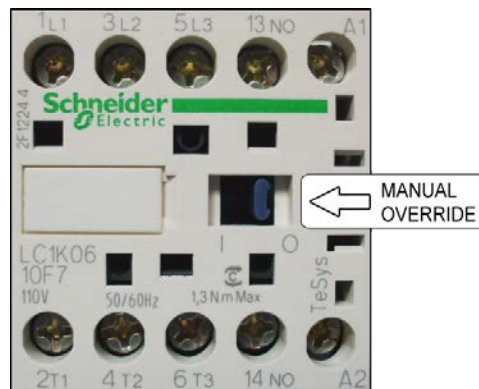

Fig. 2: Motor Contactor
2.3.14 Remove the cover from the main electrical panel and locate the motor contactor on the topmost terminal strip on the left side. In the center of the motor contactor is a blue manual override switch. Slide this manual override to the left to engage the contactor. (Fig 2) As long as this override is held, the hydraulic pump will run, supplying hydraulic pressure to the system. With the pump running, use the solenoid valve override controls to move the inner spout as outlined in the previous section. **Be sure that the inner spout is all the way UP before rotating.**